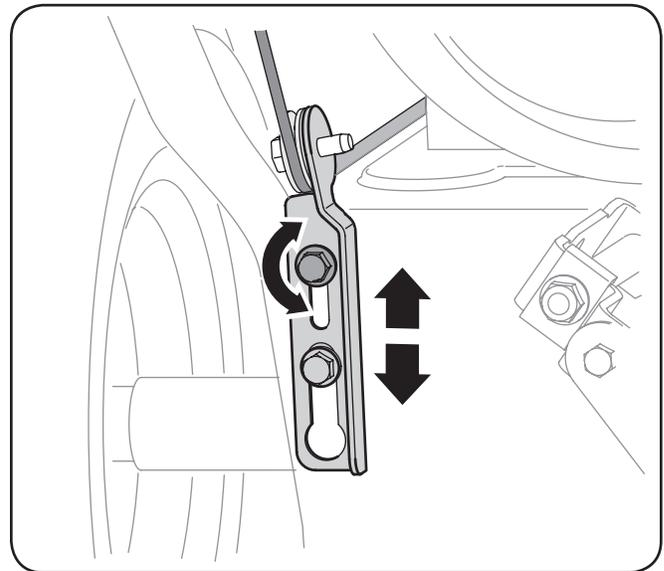

Figure 3-17
4. Allow the auger to remain engaged for approximately ten (10) seconds before releasing the auger control. Repeat this several times.
8. Position the bracket upward to provide more slack (or downward to increase cable tension). See Fig. 3-17.